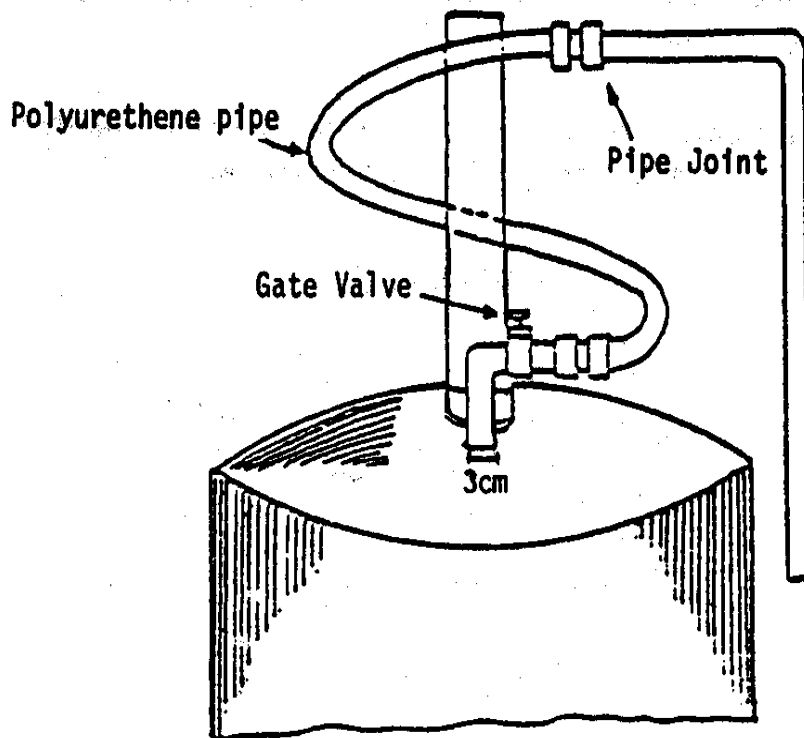

Figure 5. Piping on Gas Cap
- * Cut a 3cm diameter hole, as shown in Figure 5, in the top of